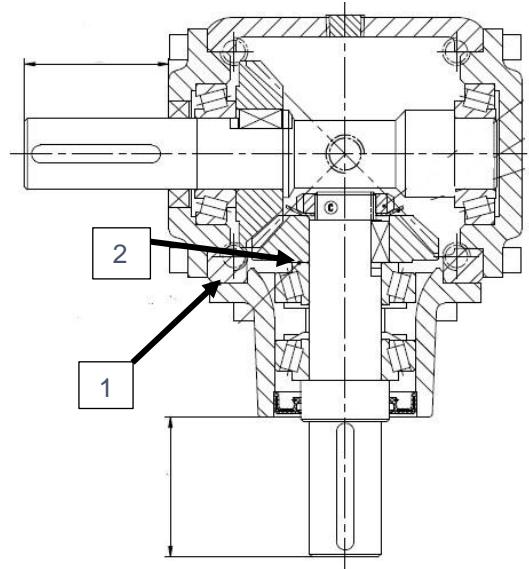

Figure 118
5. If the backlash is too small install another paper shim under the input housing, 1, Figure 118
6. If the backlash is too large install a shim between the gear on the input shaft bearing and gear, 2, Figure 118